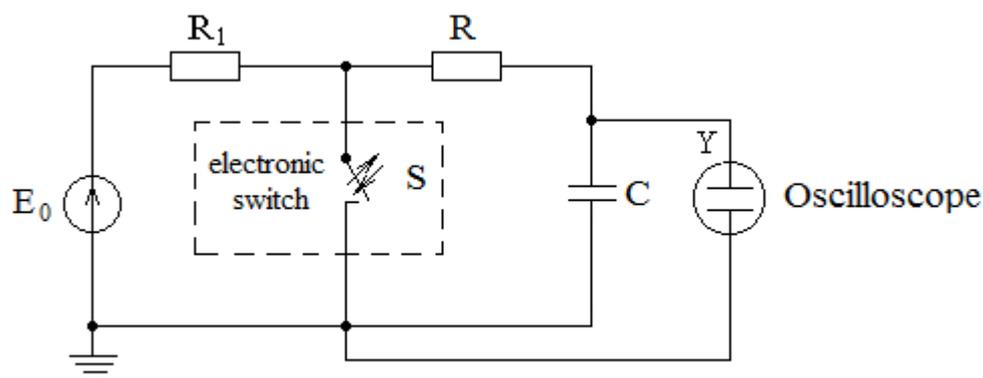

Figure 1.1 – Scheme for research of transient in RC -circuit
1.2.1 Assemble the electric circuit in figure 1.1.
1.3.1 Calculate the time constants τ and damping factors α of the circuit shown in figure 1.1 for two given options of the circuit parameters (tables 1.1 and 1.2.): τ_{RC1} , α_{RC1} и τ_{RC2} , α_{RC2} .
1.3.2 Determine the time constant τ_{RC} and the damping factor α_{RC} of the RC -circuit in figure 1.1 by the images of the voltage curves across the capacitor of $u_C(t)$ for two given options of the circuit parameters (points 1.2.3 and 1.2.5).